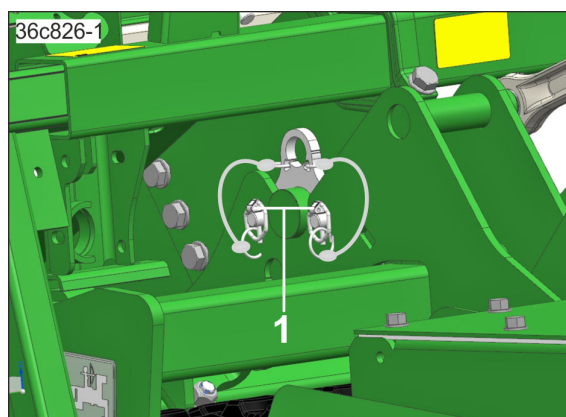

Fig. 129
6. Secure the connection with two coupling pieces (Fig. 129/1).
7. Position and secure each coupling piece with 2 linch pins (Fig. 129/2).